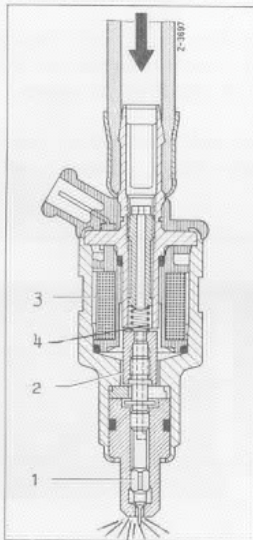

FIG. 20
7. The ELECTRIC INJECTION VALVES (Fig. 20) work identical to an electro-magnetic solenoid. Under current, a magnetic field is produced by the coil (item 3) and the armature (item 2) is pulled against the closing spring (item 4), thus opening the nozzle needle (item 1).